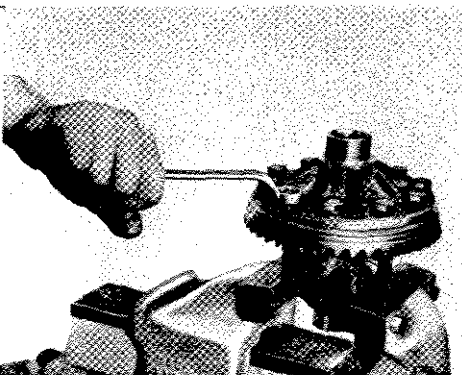

Fig. 66.
With the differential cage (71) mounted in a vice, remove the bolts (72) and spring washers, and remove the crown wheel (7) from its location spigot on the cage (Fig. 66).